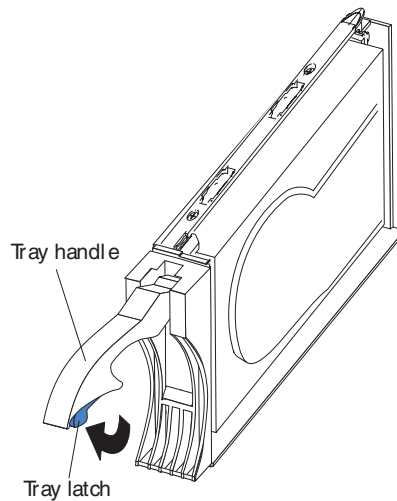

Figure 82. E-DDM CRU handle
- b. Pull the handle on the tray out so that it is in the open position, as shown in Figure 82 on page 133.
- a. Release the latch on the E-DDM CRU by pressing on the inside of the bottom of the tray handle, as shown by the arrow in Figure 82 on page 133.